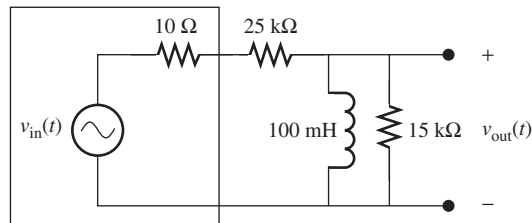

FIGURE P7.30 Circuit for Problem 7.30.
7.30 (H) As shown in Figure P7.30, a source with internal resistance is connected through a filter to drive a 15-kΩ load. Find the break frequency, f_B .